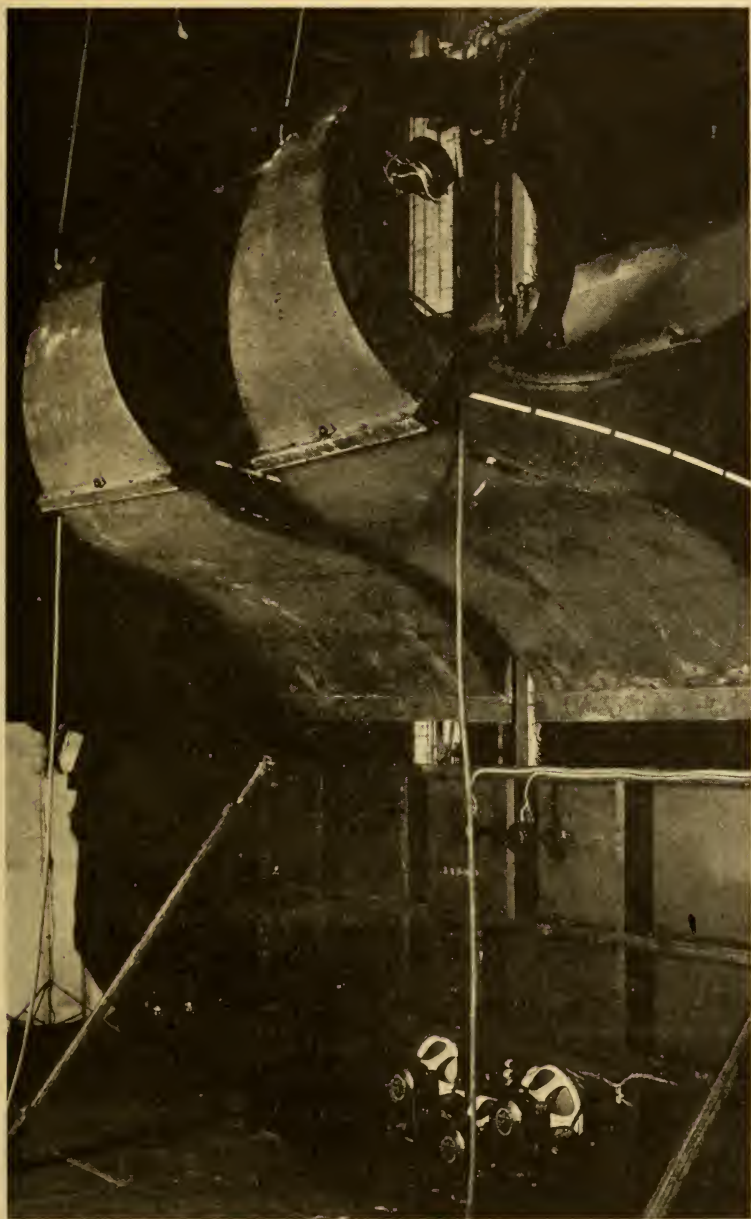

FIG. 144.—A “Wide Range” speaker installation. Compare Fig. 152.
quency, the greater the area of the baffle must be. Three cone-type, low-frequency speakers are shown mounted against the bottom of a flat baffle in Figure 144.
Figure 144 is a picture arranged to explain one type of multiple speaker installation designed to cover an unusually wide range of frequencies. The large horns at the top of that picture are capable, when used alone, of providing sound of all frequencies between about 60 and 6,000 cycles. This represents the highest standard of theatre reproduction obtainable a few years ago. The white dashed line on the right-hand speaker shows the axis or center of the sound beam emitted. The fact that the center of the sound beam is not the center of the horn must be taken into consideration when the position of this horn is adjusted to secure the best distribution of sound in the theatre. The dynamic unit is shown mounted, face downward, to the neck of the right-hand horn.
(10) When used as in Figure 144 the large horns are wired (see Page 593) to receive and reproduce only frequencies between 300 and 3,000 cycles. Sounds ranging from 50 to 300 cycles are reproduced by the three low-frequency speakers, called "woofers," which are seen at the bottom of the baffle. The stage itself forms a continuation of the baffle.
(11) Near the top of the baffle board are the two high-frequency speakers, called "tweeters," which reproduce the range between 3,000 and 8,000 cycles. There is less than a foot of baffle above the tweeters. That is enough for them, although it would not be nearly enough for the woofers. The area of baffling required grows less as the frequency becomes higher.
The tweeters shown in Figure 144 are small dynamic speakers equipped with short exponential horns. (The word exponential refers to a mathematical formula for horn design.)
The arrangement shown in Figure 144 is not the only one used to reproduce a wide band of frequencies. Some manufacturers use a single cone-type dynamic speaker so designed that it is capable of reproducing a very wide range of sound. Still another speaker arrangement is pictured in Figure 152.
Most speaker transmission lines, however, have much less complicated arrangements, except in the case of such speaker systems as are shown in Figure 144.
With the set-up of Figure 144 the transmission line includes frequency band separators, partly to provide individual volume control of each band of frequencies, and partly to avoid "peak" volume at those frequencies where the speaker ranges overlap. The control of frequency response thus obtainable is very similar in its results, although not in the method followed, to the control given by condensers C-2, C-4 and C-7 in Figure
Another method of controlling frequency response is to use a number of speaker units of the same type, or of similar type, in contrast to the different types shown in Figure 144, but to provide these units with baffles of special and sometimes complicated construction, each baffle reproducing only a selected range of sound.